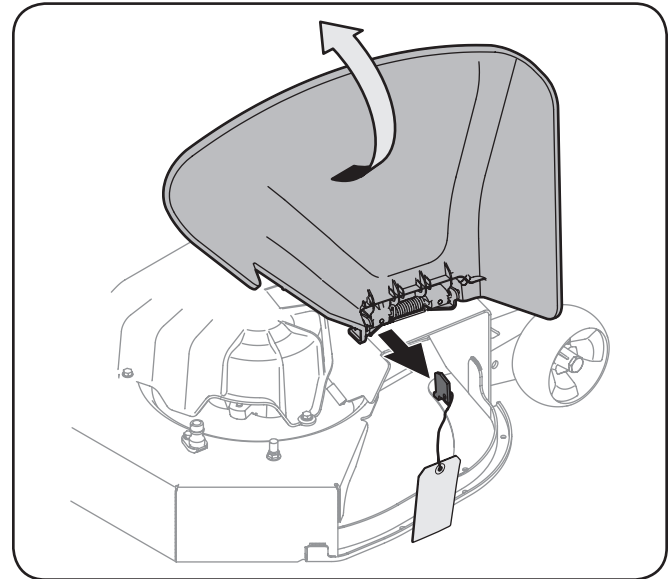

Figura 3-4
2. Holding the chute deflector fully upward, remove the stop bracket by grasping it and rotating it clockwise. Lower the chute deflector Figura 3-4.